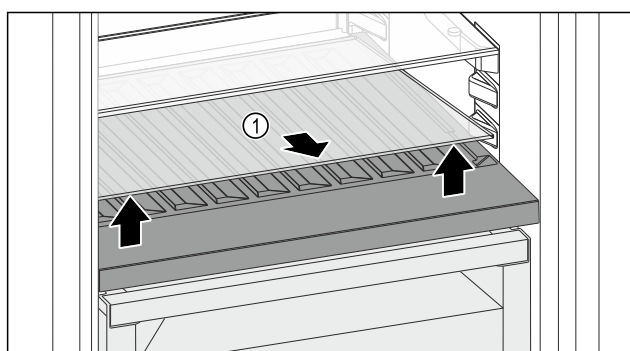

Fig. 96
- Lift the glass shelf Fig. 96 (1) at the front and remove.
- Store the glass shelf Fig. 96 (1) in a safe place outside the appliance.